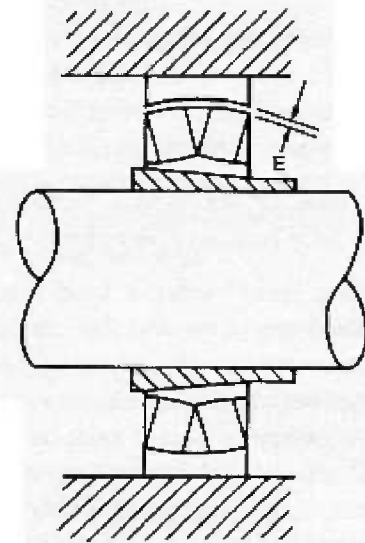

Figure 7 — Internal clearance using feeler gages
(1) Proper tightening of the adapter is measured as a reduction in internal clearance in the bearing. The more the nut is tightened, the less internal clearance will exist in the bearing. Measure the internal clearance of the bearing prior to installation by using feeler gages between the bearing rollers and the outer race (Figure 7). The bearing outer race must be centered and the shims must pass over both sets of rollers to properly measure the internal clearance. Once the bearing is on the shaft and in the proper position, the adapter may be tightened until the internal clearance is reduced by .001" to .0015."
(2) The proper tightening of the adapter may also be measured by assuming that a specific amount of axial movement of the adapter relative to the bearing inner race will provide a specific amount of reduction of internal clearance and hence a certain fit on the shaft. The ratio of axial movement to radial clearance reduction is approximately 15:1. Once the bearing is on the shaft and in the proper position, the adapter may be tightened on the shaft and becomes difficult to slide axially on the shaft. This is considered the starting point. Continue to tighten the nut until the bearing moves 0.020" to 0.025". The minimum bearing internal clearance after mounting is 0.0012" to 0.0014".